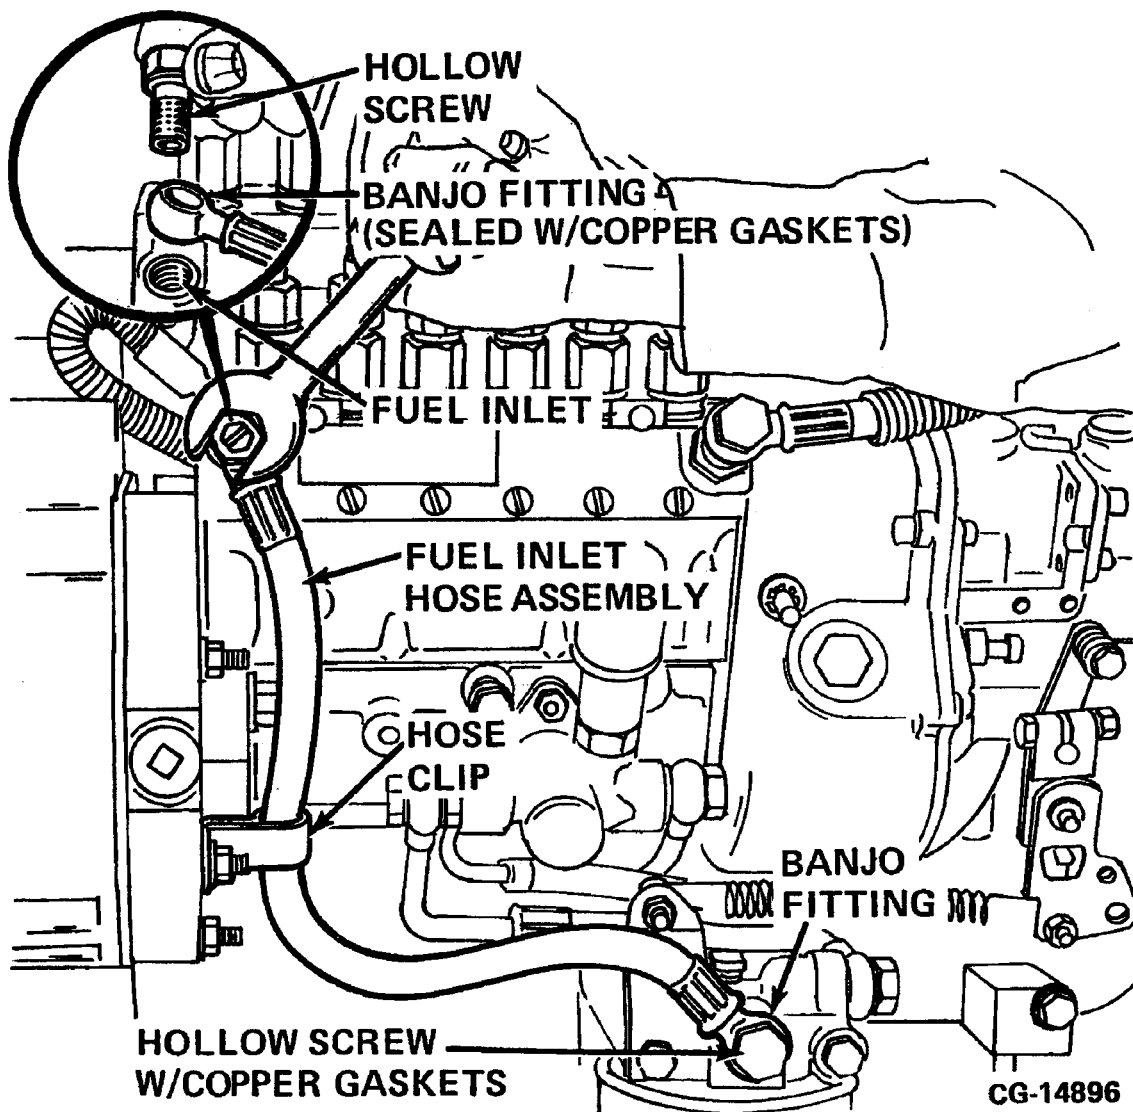

Figure 11.17. Remove the Fuel Inlet Hose Assembly
5. Remove the fuel inlet (fuel header to injection pump) hose assembly as follows: (Refer to Figure 11.17)